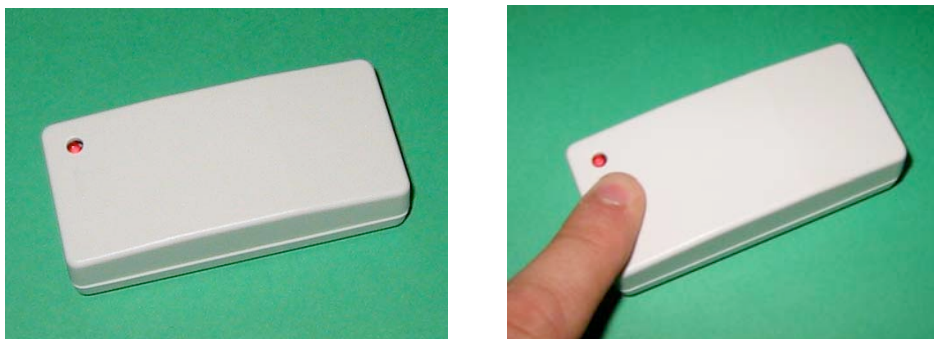

Figure 5.2: Wireless Sensor Programming
4. While the "Program LED" is solid RED, press and hold the "Test Button" on the Wireless Transmitter that is to be mounted above the entry door until the RED LED on the Wireless Transmitter is solid red and the "Program LED" on the Wireless Receiver starts flashing. (**Figure 5.2**) *[Note: There is not an actual button on the Wireless Transmitter, simply squeeze the end with the LED. Also, it is difficult to know when the "Test Button" has been pressed other than watching for the LED on the Wireless RECEIVER to start flashing]*